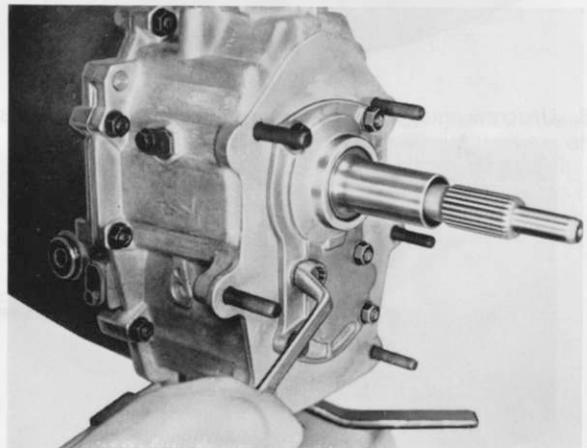

Fig. 9
- 1. Loosen nuts (201) (Fig. 9) and front cover (203).